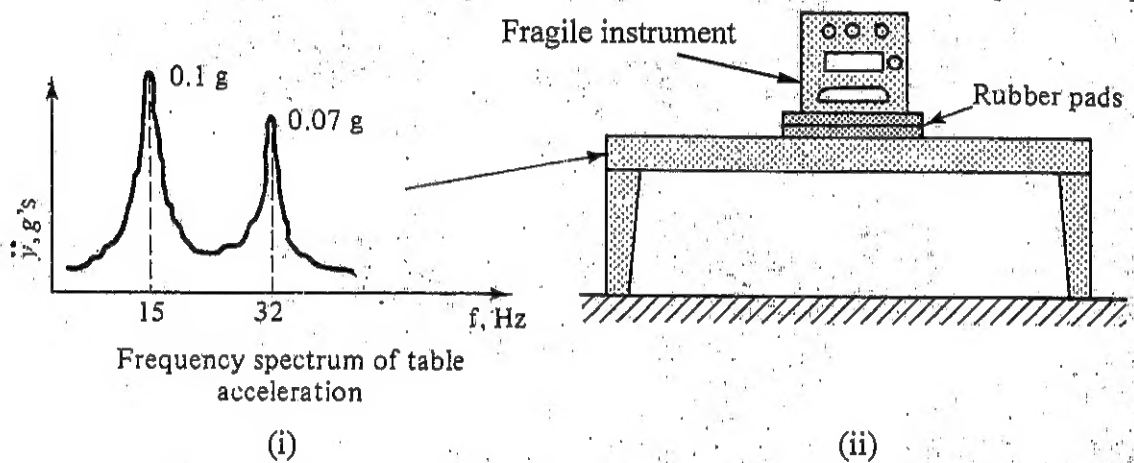

Figure Q2(a)
- (a) A fragile instrument of mass $m = 100$ kg is used on a table that is vibrating because of its proximity to rotating machines that are running in the area. Since the vibration of the table affects the operation of the instrument, it is desired to use an accelerometer and spectrum analyzer to obtain the values of the frequency components of the acceleration (in g 's) of the table. The acceleration of the table is shown in Figure Q2(a)(i). To reduce the acceleration of the instrument to an acceptable limit of $0.02g$'s, it is proposed to isolate the instrument from the table by means of several 25-mm-thickness rubber pads as shown in Figure Q2(a)(ii). Determine the maximum number of pads, which are arranged in parallel, required to reduce the acceleration of instrument to $0.02g$'s or less if the stiffness of each pad is 250 N/cm. Ignore the damping of each pad, since it is very small.